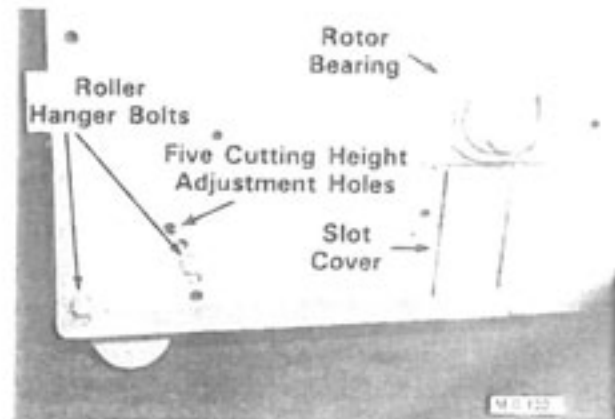

Figure 4
3. Install a  $\frac{1}{2}$ -13 x  $1\frac{1}{2}$ " (Grade 5) hex-head capscrew thru the hanger into the lower rear hole on both sides of the mower body, see Figure 4. Secure with lockwasher and hex-nut, do not tighten.
head capscrew thru the hanger into the adjustment hole on both sides of the body, see Figure 4. These capscrews must be in the same hole on each side. Secure with lockwasher and hex-nut.